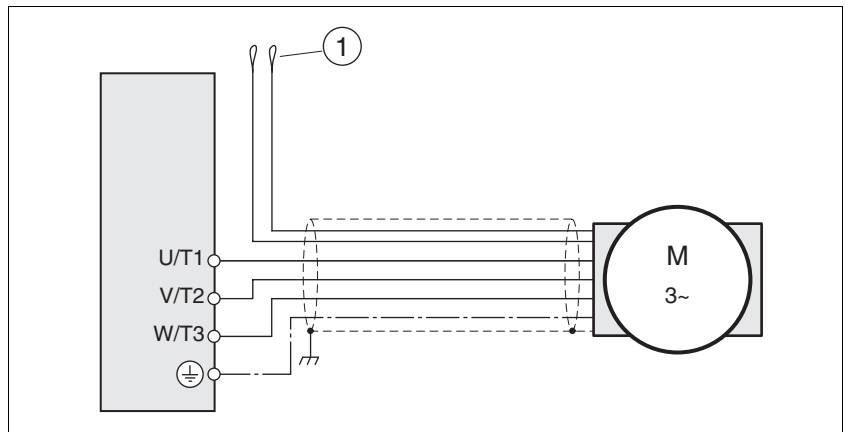

Figure 6.7 Motor wiring diagram, here without holding brake
- ▶ Insulate unused wires at both ends and individually, see Figure 6.7, Pos 1.